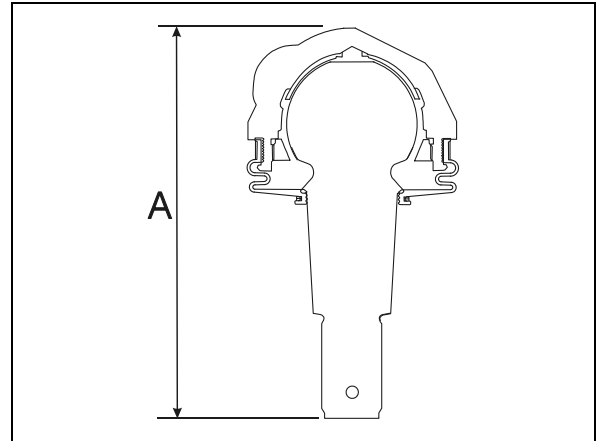

FIGURE 33: UPPER A-ARM BALL JOINT 16116
2. Using a caliper, measure dimension A on figure 33.